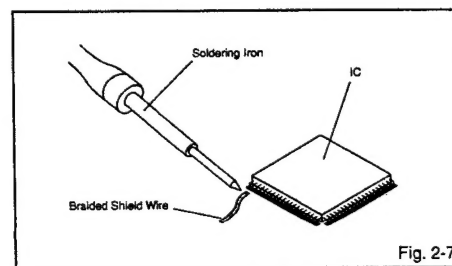

Fig. 2-7
3. Absorb the solder left on the lead using the Braided Shield Wire. (Refer to Fig. 2-7.)